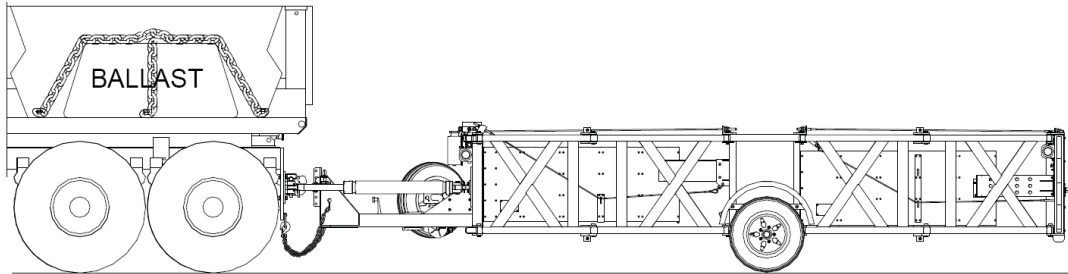

Figure 8
5. Ballast and other heavy objects **MUST BE ADEQUATELY ANCHORED** to the truck to prevent shifting during an impact. The force on the tie-down straps could be 20 times the weight of the ballast (Figure 8).